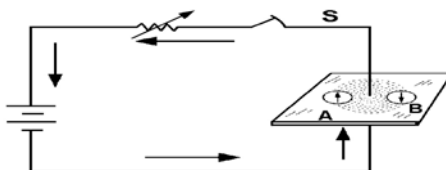

Figure 1-3. Lines of force around a conductor.
Figure 1-3 shows one way to prove the existence of a magnetic field surrounding a direct current (DC) conductor. Note that a straight piece of wire is passed through a hole in a piece of glass and connected to a DC source through a rheostat and switch. If you sprinkle iron filings over the glass and then tap it gently, the filings will arrange themselves in circles about the wire. If you place two magnetic compasses on the glass, their needles will point in the direction of the magnetic lines of force. The north pole of each compass (A and B) indicates the direction of magnetic lines of force. In this experiment the magnetic lines of force travel counterclockwise. This experiment shows that a magnetic field does exist about a current-carrying conductor and that the field also has direction. If you reverse the battery, the direction of the current reverses and both compass needles change direction by 180° . Thus, a change in current direction changes the magnetic field's direction. The important point to remember about this experiment is when an electric current is flowing, there's a magnetic field.